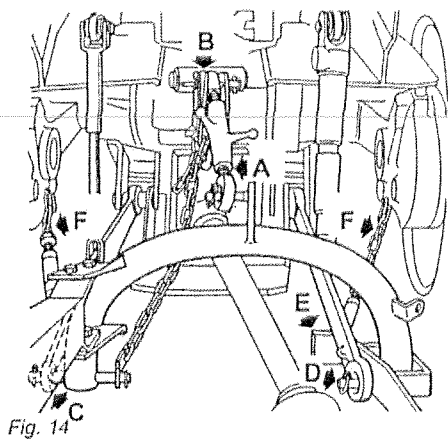

Fig. 14
- 1 - Connect the upper third-point and correctly regulate by means of the adjuster (A, Fig. 14). Place plate (B, Fig. 14) at the left side of the hitch integral with the same pin. Lock in place with the snap-in split pins.*
- 2 - Hook the oscillating arms of the tractor to pins (C and D, Fig. 14).
- 3 - Lock the lift links using the relative chains (F, Fig. 14) and couplings parallel to the tractor. This operation must be carried out to prevent the machine from moving in a horizontal direction.*